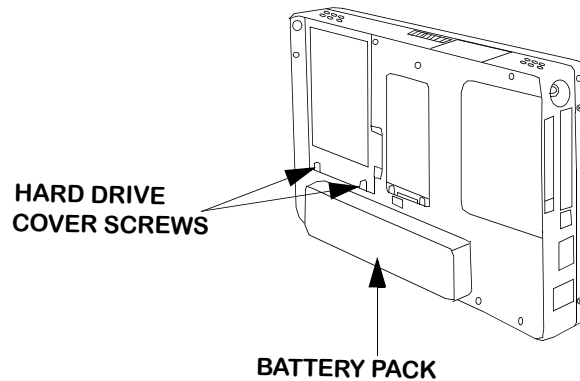

Figure 16 Pen Tablet (Rear View)
- (1) Place Pen Tablet face down on a flat working surface.
- (2) Before removing hard drive, unlock and remove battery pack, refer to paragraph 5.4.8.1 **REMOVAL OF BATTERY PACK**.
- (3) Set battery pack aside.
- (4) Remove two screws that hold hard drive cover. Set screws aside. Refer to Figure 16.